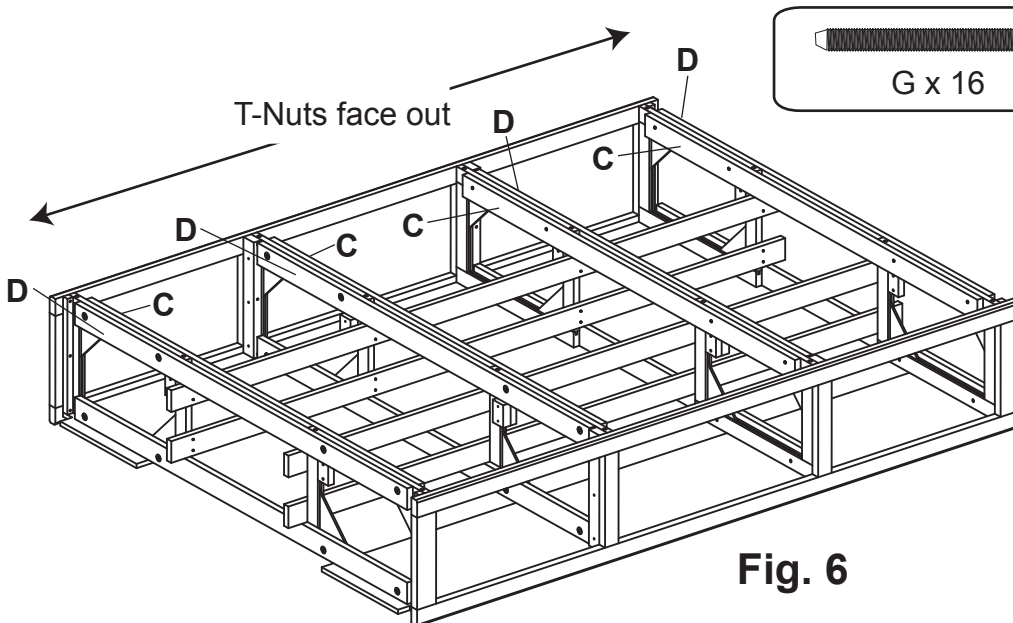

Fig. 6
6. Position the remaining Trestles (C and D) on the Pedestal Assembly. Face the Trestles with T-Nuts (D) toward the ends of the Assembly from the center of the bed as shown in Figure 6. Insert and hand-tighten the 1/4" x 2-1/2" Hex Bolts (G) and Washers (H). See Figures 6 and 6a.